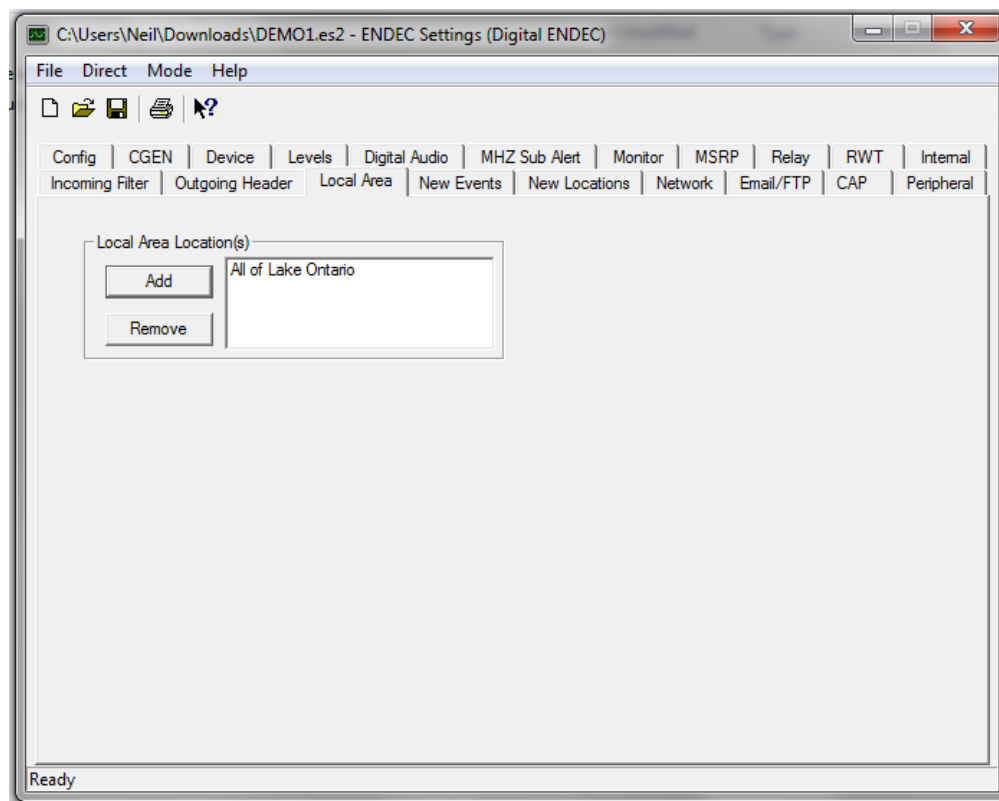

Figure 3.
- c. On this tab, select any area for the “Local Area” as shown in Figure 3. This area is not used for the active alerts, but must have a value set or the Endec will indicate an error by blinking the “automatic” LED.